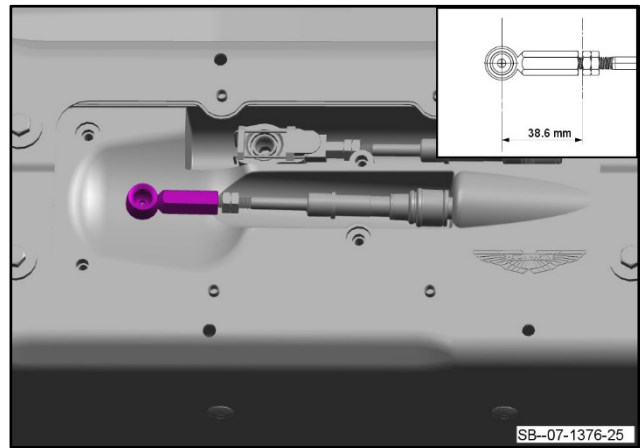

Figure 20
22. Install the new ball joint to the shifter cable (refer to Figure 20). The distance to the centre of the new ball joint to the adjustment nut must be the dimension shown.